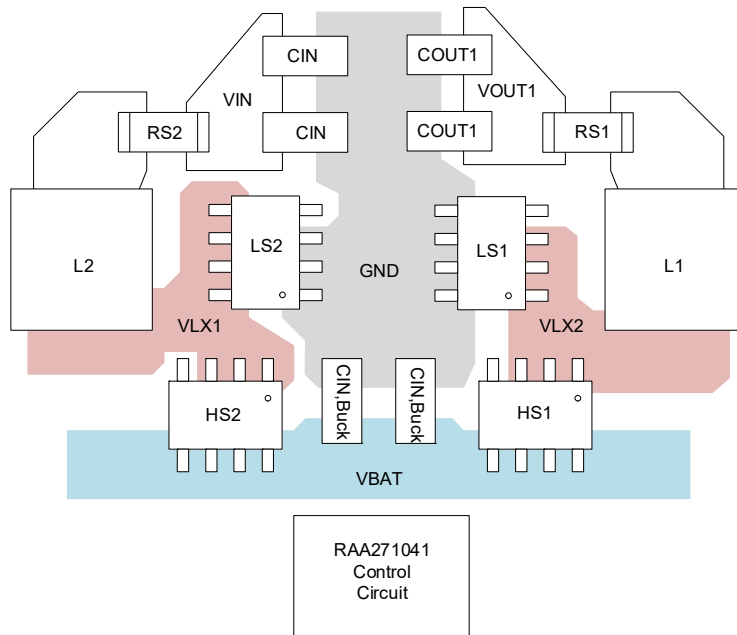
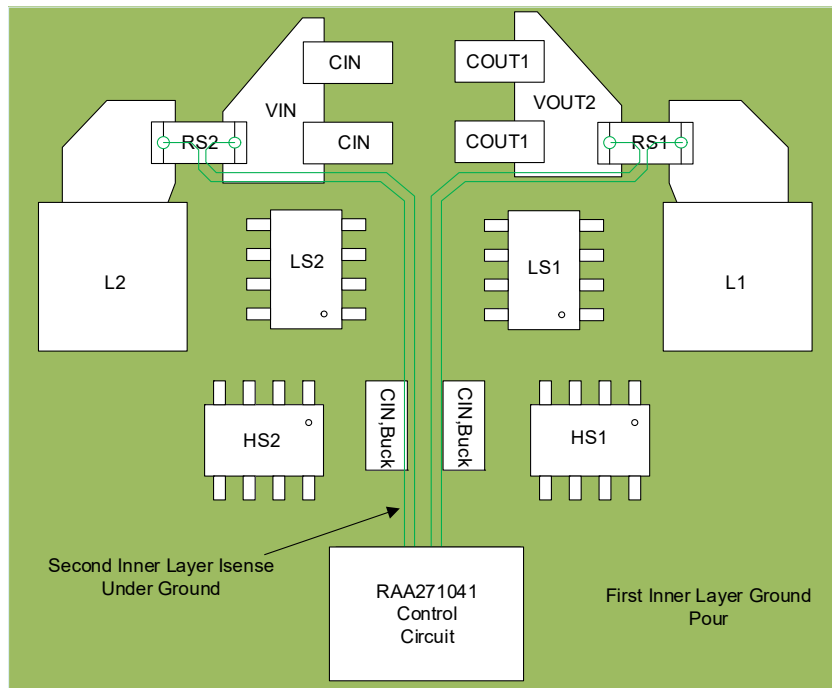

Figure 24. PCB Layout Illustrating Power Component Placement
Figure 25. PCB Layout Illustrating Current Sense Routing
The following layout instructions see Figure 24 and Figure 25 as noted.
- In Figure 24, connect the common connection between input capacitors, output capacitors, and the low-side FET for each channel through the central ground (gray) area.
- The first inner layer below the top copper layer with power components should be a ground layer that is as complete as possible, as indicated in Figure 25 using the light green fill. This provides a tightly coupled ground return path for the power circuitry. This layer is also used in conjunction with many vias to create a low-impedance connection from the common power GND region to the RAA271041 controller, and the thermal pad is connected to this plane using multiple vias.
- Each channel has ISNS connections that should be routed as shown in Figure 25. The ISNS traces are routed on the second inner layer, which is shielded from power switching currents by the ground area on the inner layer 1. Begin the ISNS traces as a kelvin connection through a via in the center of the sense resistor in each channel.